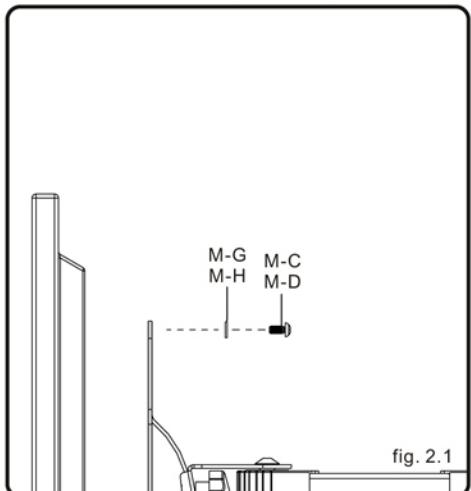
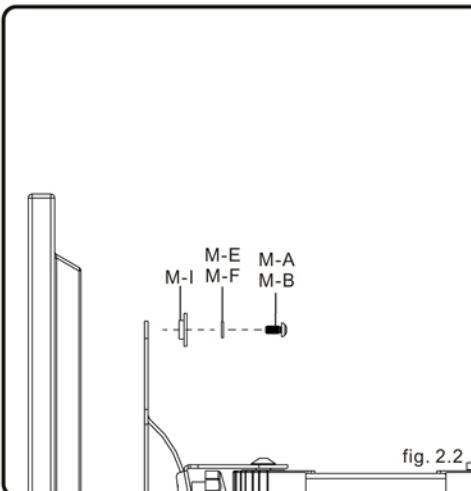

fig. 2.1
fig. 2.2
- Find the appropriate VESA, attach the adapter plate to the back of the screen using the appropriate combination of screws, washers, as shown in fig.2.1 and fig.2.2.